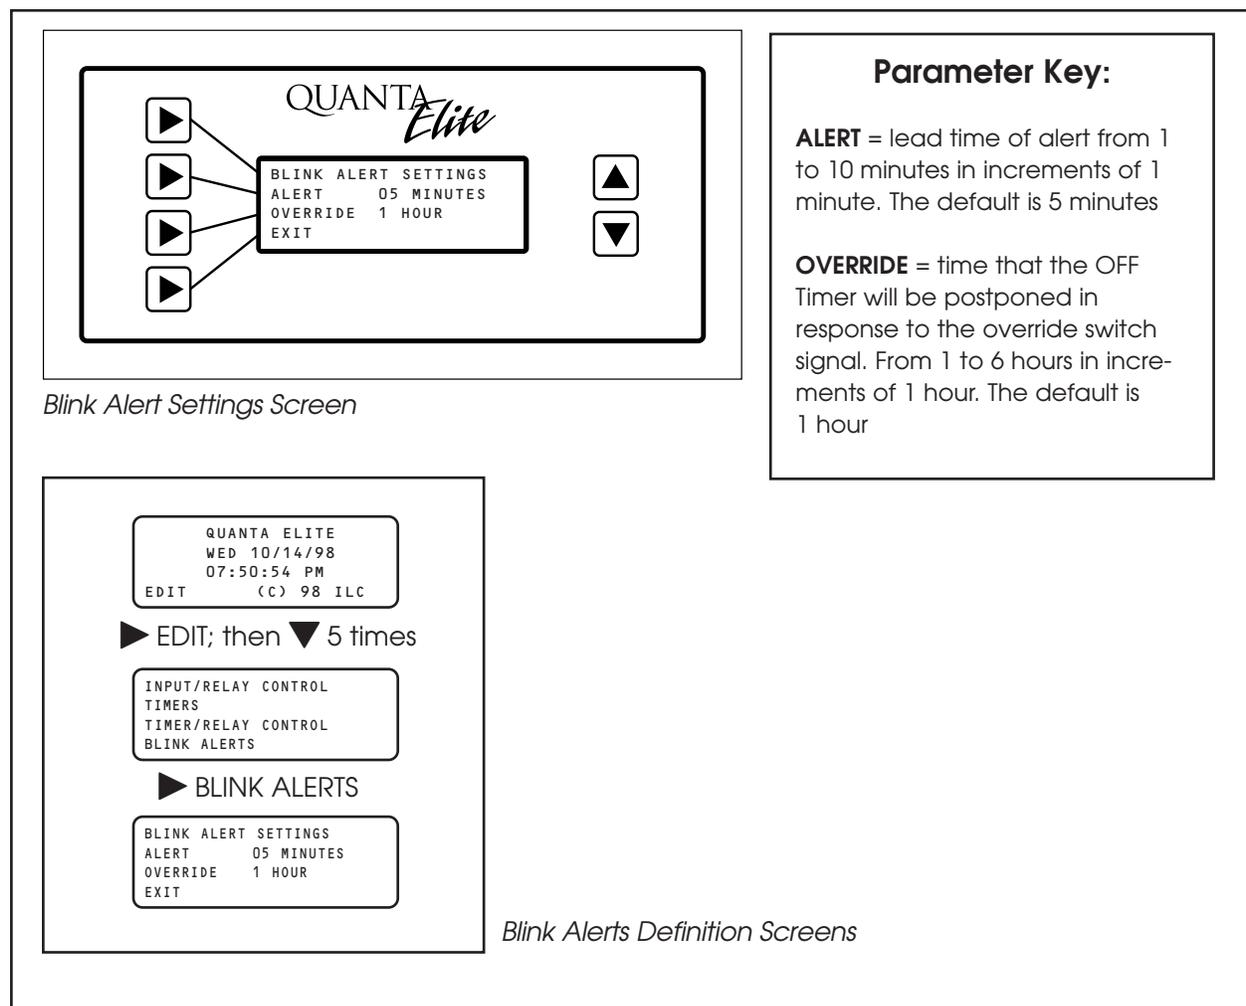

Figure 3.10
2. From the menu, press ► BLINK ALERTS to access the Blink Alert Settings screen. (See Figure 3.10.)